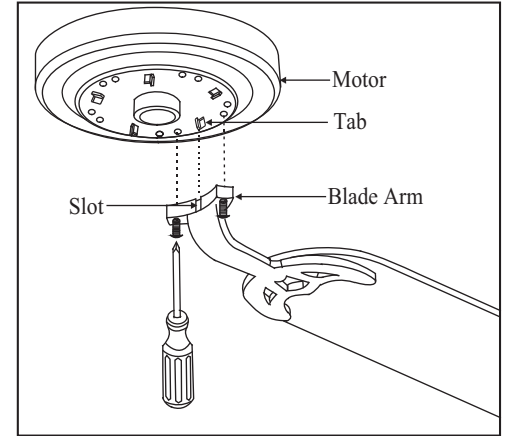

Figure 14
3. Fasten the blade assemblies to the motor housing by lining up the slots of the blade arms with the tabs on the motor housing, then tighten the two screws and washers already installed in the blade arms (Fig. 14).